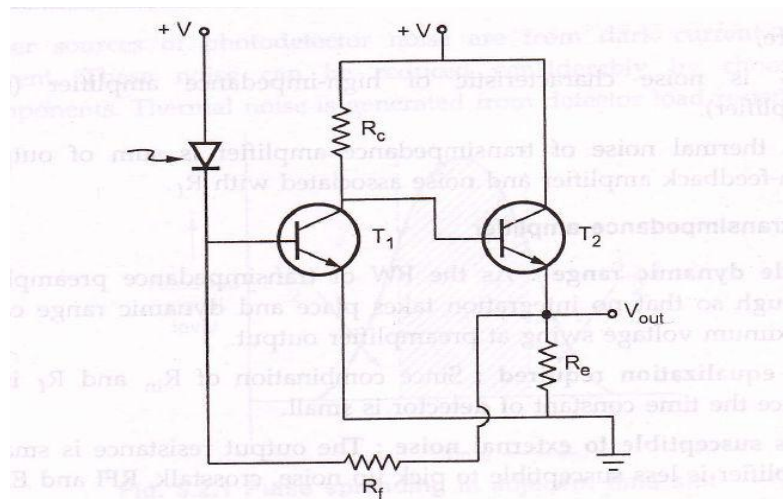

Fig. 5.1.7 CE/CC shunt feedback transimpedance receiver
- A transimpedance amplifier is a high-gain high-impedance amplifier with feedback resistor  $R_f$ . Fig. 5.1.7 shows a simple CE/CC. Shunt feedback transimpedance receiver.